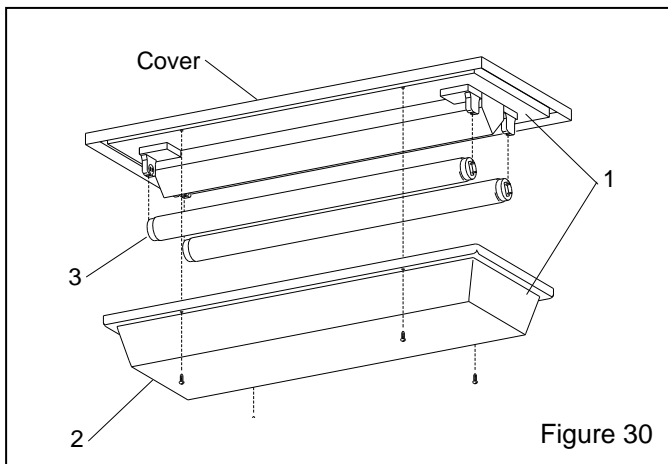

Figure 30
**9.6 Light Shield Assembly, Figure 30**